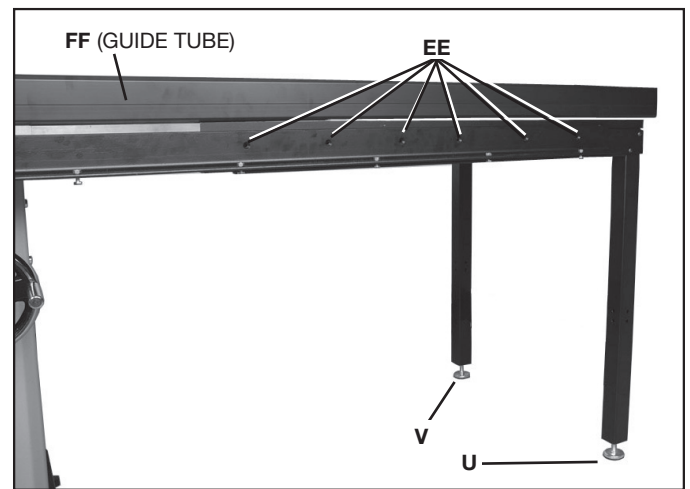

FIG. 13
1. Position the leveling foot (U) Fig. 13 on the front of the saw until the holes (not visible) in the extension table line up with the holes (EE) in the front rail. (**NOTE:** 52" (1.3 m) version shown in Figure 13.)
**NOTE:** Place guide tube (FF) across saw table and onto extension table as shown in Fig. 13. If there is a gap (as shown) the leveling foot (DD) needs to be adjusted to bring the table up more.
2. Insert a 1/4-20 x 3/4" (19 mm) flat head screw into one hole (EE) Fig. 13 on front rail. Place a 1/4-20 serrated flange nut on the screw from underneath the extension table.
3. Repeat this for the remaining holes (EE) Fig. 13 in the front rail.
**NOTE:** Instead of leveling foot (U) Fig. 13, you will position leveling foot (V) just prior to installing rear rail fasteners.